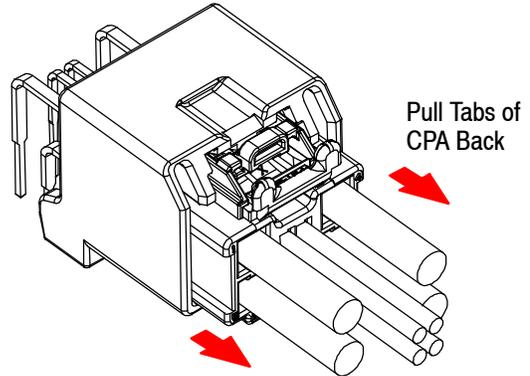

Figure 9
1. To unmate the CPA, lightly pull the CPA back to Position 1 (pre-installed position), until an audible “click” is heard. See Figure 9.